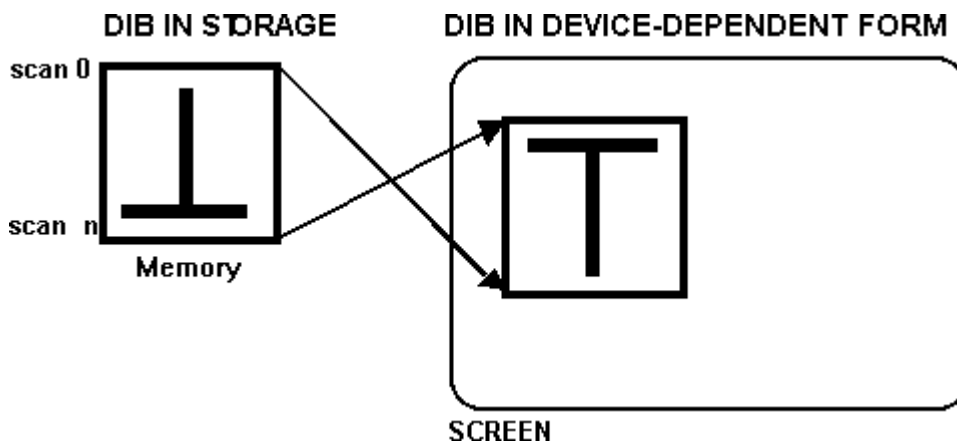

Figure 1.
- The scanlines are stored upside down, with the first scan (scan 0) in memory being the bottommost scan in the image. (See Figure 1.) This is another artifact of Presentation Manager compatibility. GDI automatically inverts the image during the **Set** and **Get** operations.